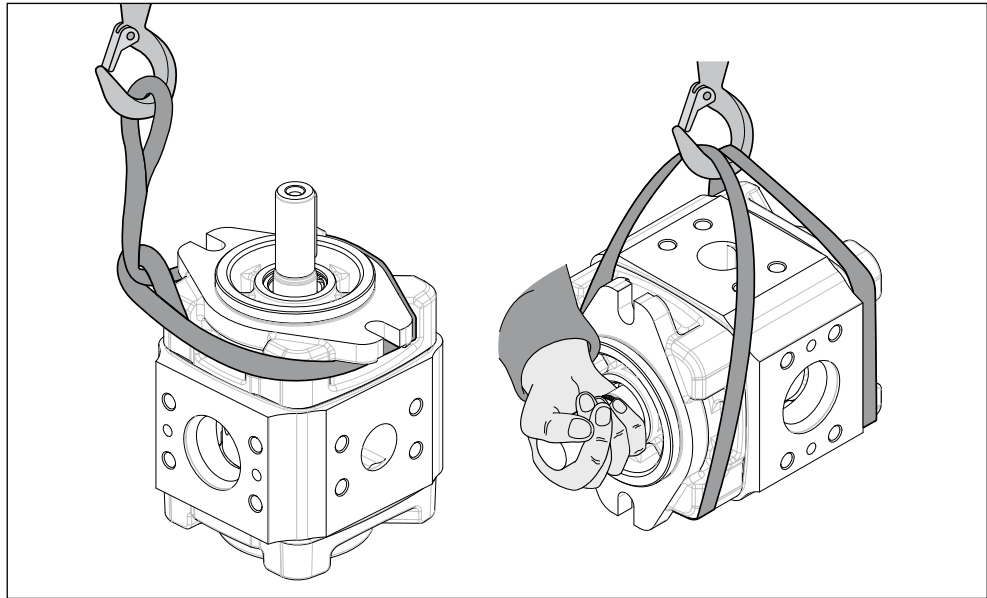

Fig. 5: Transportation with lifting strap
- ▶ Place the lifting strap around the flange and rear cover in such a way that the strap cannot slip off and the pump cannot fall out (see Fig. 5).